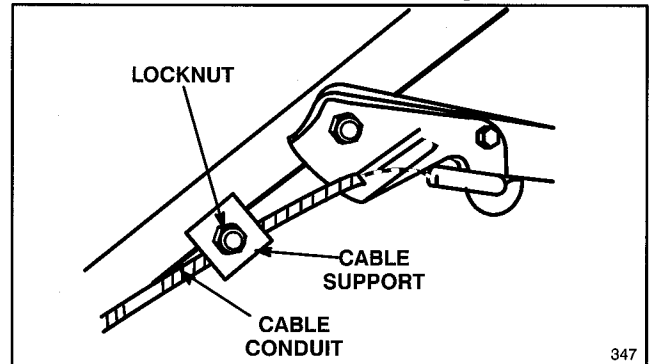

Figure 22
3. ADJUST CABLE CONDUIT—Loosen locknut on cable support (Fig. 22). Insert $1/8'' - 3/16''$ object between brake lever and handle. Pull down on cable conduit until slack is removed. Then tighten locknut.